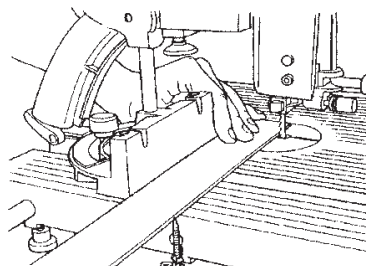
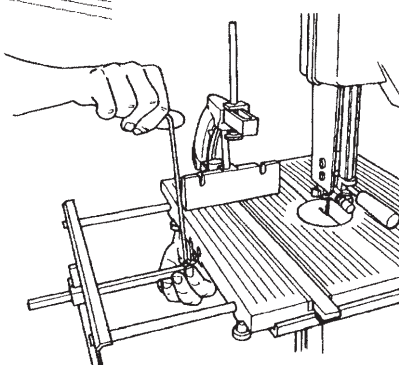

Fig. 11
Fig. 12
13. Place a straightedge along the face of the miter gauge, as shown in Fig. 11. Adjust the pivot plate so the center pin's tip is aligned with one of the saw blade's tooth tips. When aligned, use a 1/8" Allen wrench to tighten the button head screw in the pivot plate, as illustrated in Fig. 12.